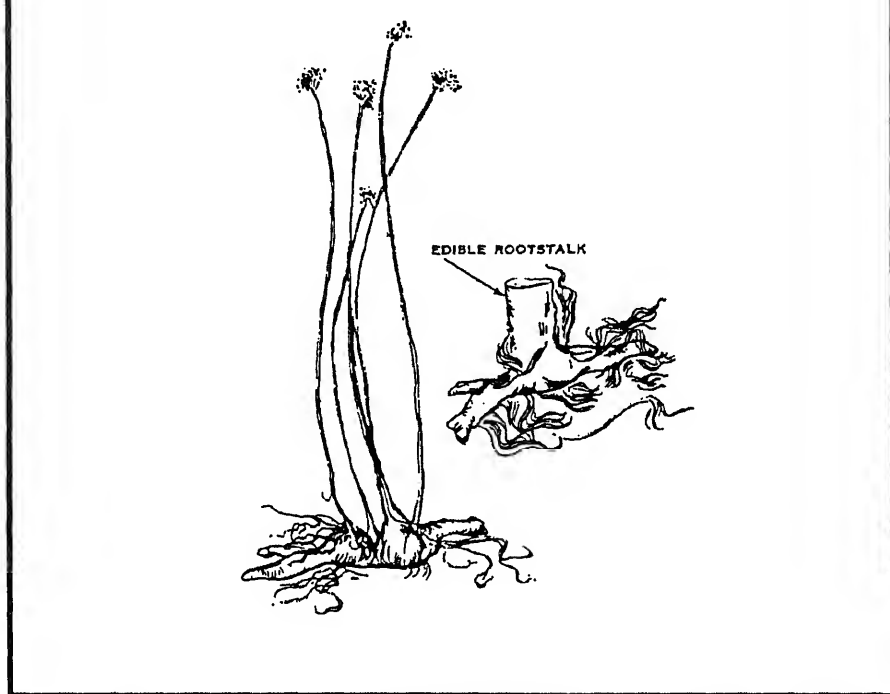

Figure 19-15.—Bulrush.
5. **BULRUSH.** Bulrush is a tall plant found in the wet, swampy areas of North America, Africa, Australia, the East Indies, and Malaya. (See fig. 19-15.) You may eat the roots and white stem base cooked or raw.